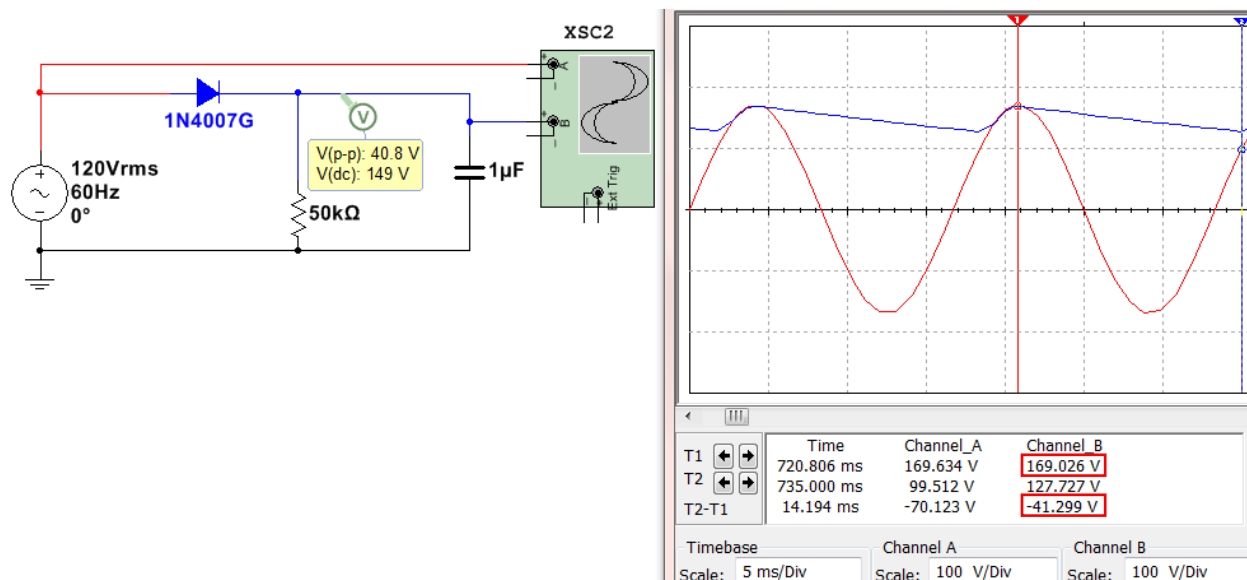

Figure 6.16: Half-Wave Peak Rectifier.
Rectification is the first step in converting an AC signal to a DC signal. The next step would be to add a capacitor in parallel with the load resistor where $V_{o,pk}$ is measured so that the voltage will not be allowed to drop very fast due to the time constant of the capacitor. Once the “smoothing capacitor” is added the rectifier is called a “Peak Rectifier”. An example of a half-wave peak rectifier is shown in Figure 6.16. The calculations and Multisim measurements of a **half-wave peak rectifier** are shown below (See equation summary in Table 6.1).
- V_s = peak input voltage = $120 \cdot \sqrt{2} = \mathbf{169.7\text{ V}}$ (169.634 V in Multisim - Figure 6.16).
- $V_{o,pk}$ = peak output voltage = $V_s - 0.7\text{ V} = \mathbf{169\text{ V}}$ (169.026 V in Multisim - Figure 6.16).
- V_r = ripple voltage ($V_{o,pk} - \text{minimum } V_{out}$) = $\frac{V_{o,pk}}{fRC} = \frac{169}{60 \cdot 50k \cdot 1\mu} = \mathbf{56.3\text{ V}}$ (~ 41.3V in Figure 6.16).
- $V_{o,dc}$ = the approximate DC voltage (centerline of the ripple). In Figure 6.16 $V_{o,dc}$ is equal $169 - 0.5 \cdot V_r = 169 - 0.5 \cdot 41.3 = \mathbf{148.4\text{ V}}$. The DC voltage probe in Figure 6.16 measures the DC voltage as 149 V.
The equations for half-wave and full-wave peak rectifiers that were shown in Figures 6.16 and 6.17 are summarized in Table 6.1. **Note:** The **Full Wave Center Tapped** equations are shown, but this type of rectifier circuit is not covered in detail in this eBook.